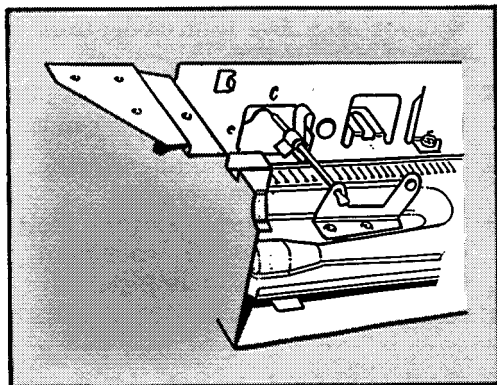

Fig. 4
8. Re-assemble in reverse order ensuring FSD phial is located as in Fig. 4.